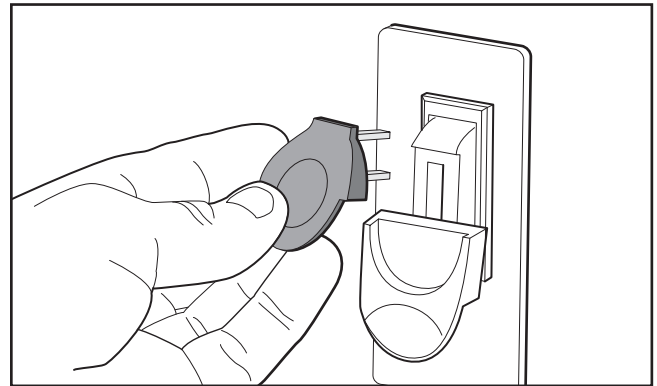

Figure 23. Removing switch key from paddle switch.
4. Remove switch disabling key, as shown in **Figure 23**.